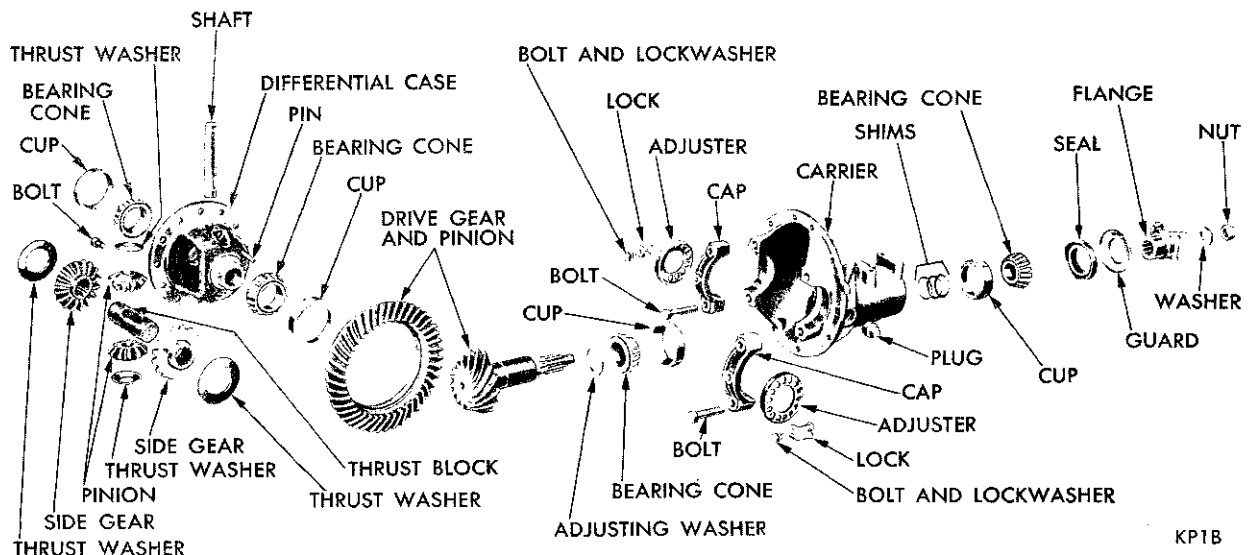

Fig. 22—Differential Carrier Assembly (Disassembled) (AC-1) (Small Pinion)
(3) Inspect the differential case for elongated or enlarged pinion shaft holes, the side gear counterbores and the four thrust washer contacting surfaces for galling, metal deposits or raised portions of metal. If any of the above conditions exist, satisfactory correction must be made or the case replaced. Inspect the case for cracks or other visible damage which might render it unfit for further service. (Figs. 22 and 23).
(4) Inspect the differential pinion shaft for excessive wear. Replace as necessary.
(5) Inspect the differential pinion gears for excessive wear, cracks, chipped teeth or other visible dam-